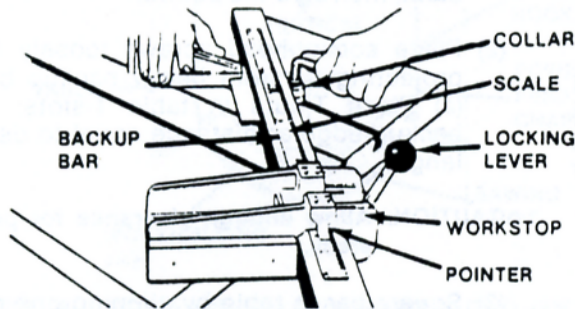

FIG. 34. UNIVERSAL CALIBRATED WORK FIXTURE SET UP FOR ANGLE CUT-OFF.
- (3) Notch backup bar with band to assure cutting through stock completely and set table stop to limit table travel to cut length. See Fig. 34.